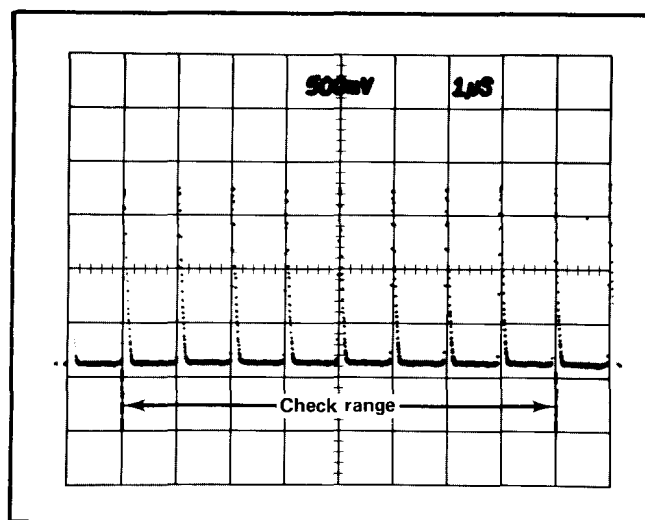

Fig. 5-3. Correct TIME/DIV check range. One μ s period markers are shown.
e. CHECK that the TIME/DIV accuracy is within 3% (0.24 div) for all ranges according to Table 5-2. Perform all measurements from graticule line 1 to graticule line 9 (8 div range). See Fig. 5-3 which shows the 1 μ s/div measurement. The check should be made at each end of the TIME-DISTANCE scale.